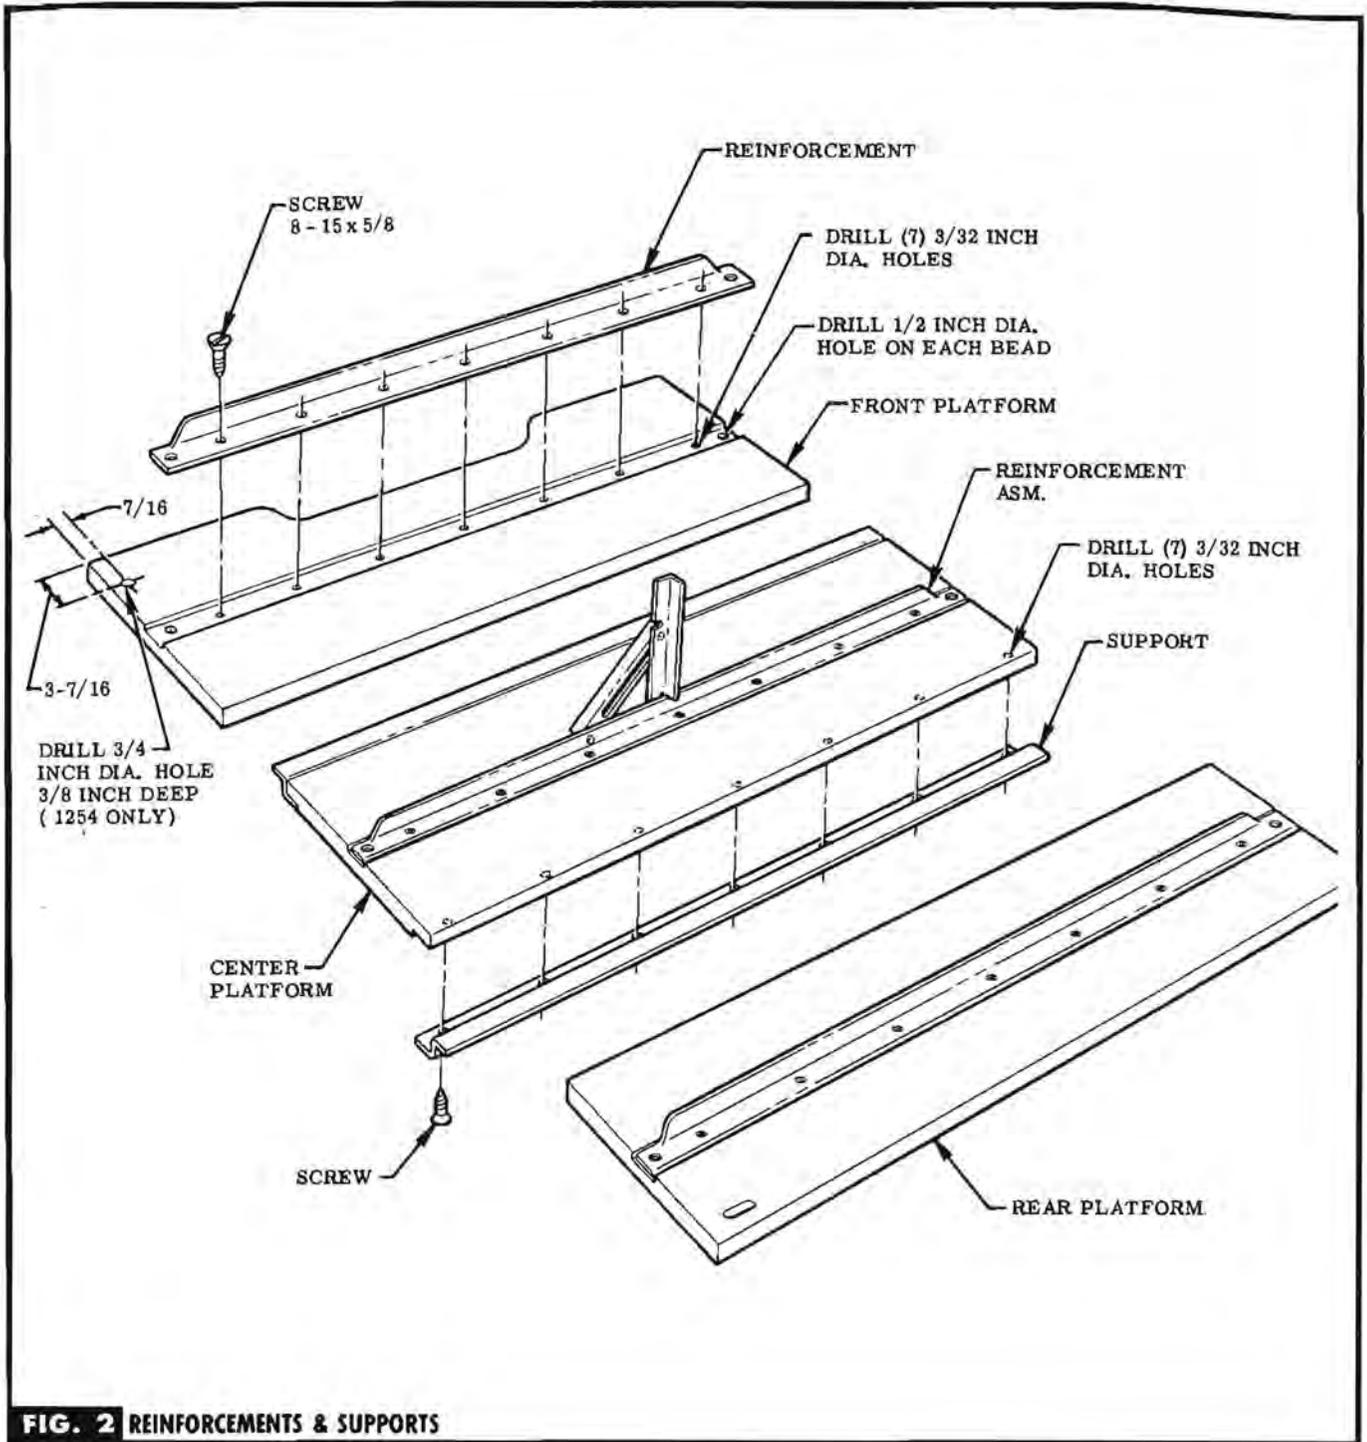

FIG. 2 REINFORCEMENTS & SUPPORTS
STEP 7 USING REINFORCEMENTS PROVIDED AS A TEMPLATE, LOCATE & DRILL HOLES IN UNDERSIDE OF PLATFORMS. **NOTE** Do not drill thru plywood with 3/32 inch drill. SEE FIG. 2.
SEE FIG. 2. **NOTE** Drill thru permissible.
STEP 9 ATTACH REINFORCEMENTS & SUPPORTS TO PLATFORMS WITH SCREWS PROVIDED. SEE FIG. 2.
STEP 10 (ON 1254 MODELS ONLY) LOCATE & DRILL HOLE IN R. H. CORNER OF FRONT PLATFORM. SEE FIG. 2.